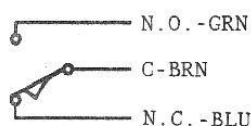

FIG. 10
The MBS senses whether sufficient magnetic holding force exists to ensure adequate locking. It will respond to low line voltage, foreign materials in the magnetic gap, damage or dirty surfaces of the lock and/or armature. The MBS option provides a signal via a set of form "C" dry contacts rated 1 amp at 30VDC resistive load maximum. The dry contacts are accessed by three wires which are BLUE, BROWN and GREEN. They are labeled in a deenergized/no bond condition which are GREEN normally open (N.O.), BLUE normally closed (N.C.) and BROWN common (C). Once the lock is energized and the magnet and armature are properly bonded, the contacts will switch, at which time the common (BROWN wire lead) and the normally open (GREEN wire lead) will be closed contacts. See Figures 10, 11 and 12 below.